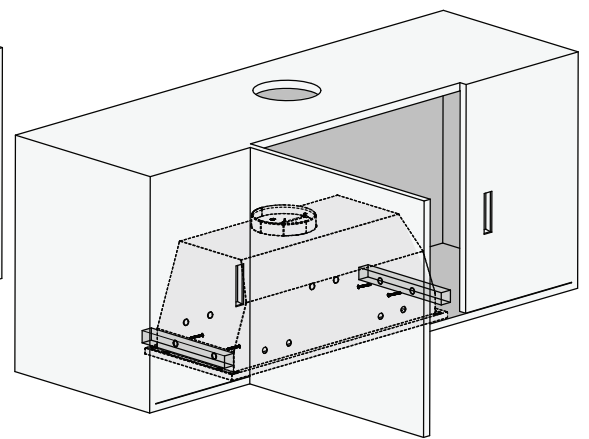

Figure 6
- Use 4 screws to fix the hood onto the right and left wooden beams (see Figure 6).